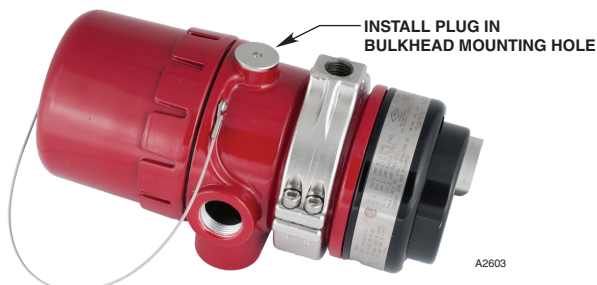

Figure 5—Correct Installation of Collar Attachment to Detector
- Using the 5 mm hex wrench, remove the bulkhead plug from the top half of the collar attachment and install it in the detector bulkhead mounting hole (to prevent corrosion). See Figure 5.